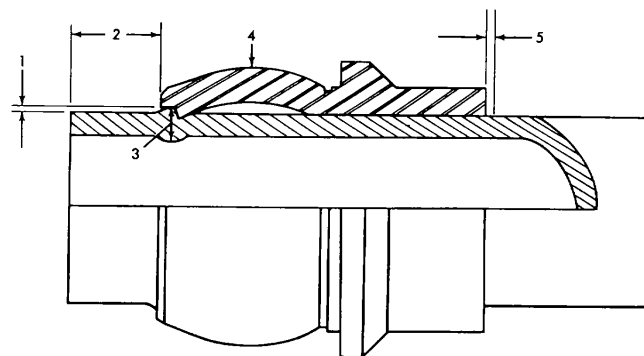

Figure 3-27. Flareless Tube Fitting Dimensions
i. Flareless Fittings. The flareless fitting is subjected to high pressures in the loader. The sleeve on the end of the tubing must therefore be installed correctly if reliable operation is to be realized. Figure 3-27 shows the correct way to install sleeves.